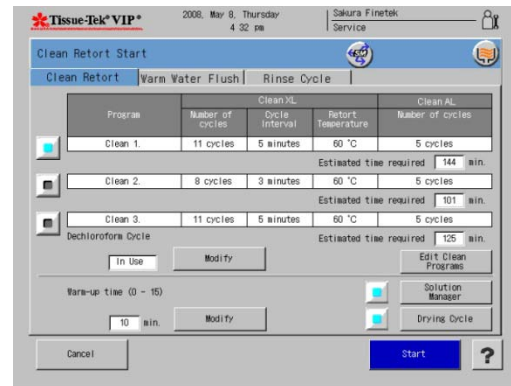

Figure 3-RRR
- The Cleaning screen displays (Figure 3-RRR).